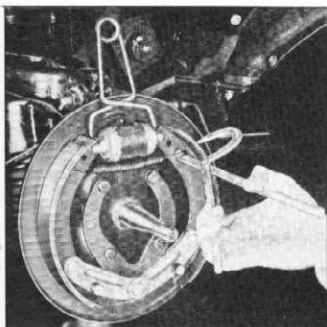

Fig. 18—Removing Brake Shoe Retracting Spring
4. Remove brake shoe retracting spring with brake spring pliers KMO-142 (fig. 18).